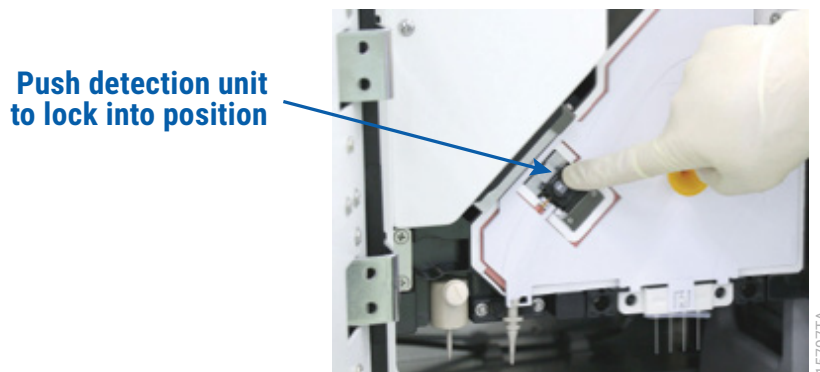

Figure 37. Fixing detection unit in place.
9. Push the detection unit into place in the detection window until it is locked in place (Figure 37).
Note: If the detection window is not locked firmly into place in the detection unit of the oven (Figure 37), the spatial calibration will fail.